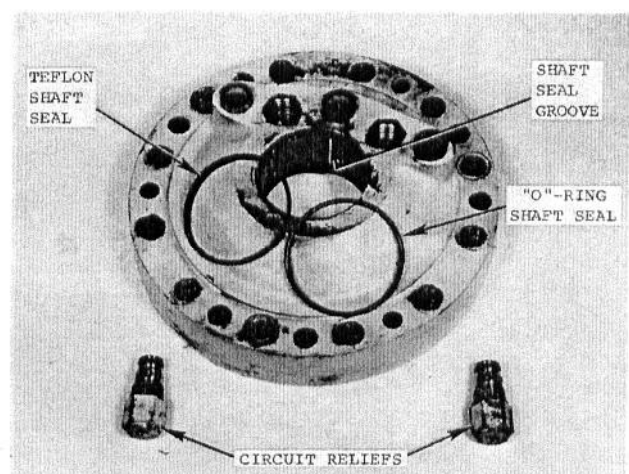

Fig. 48 — Circuit Reliefs and Shaft Seals Removed From Top Cover
a. Remove the circuit relief cartridges and the shaft seals from cover ... see Fig. 48.